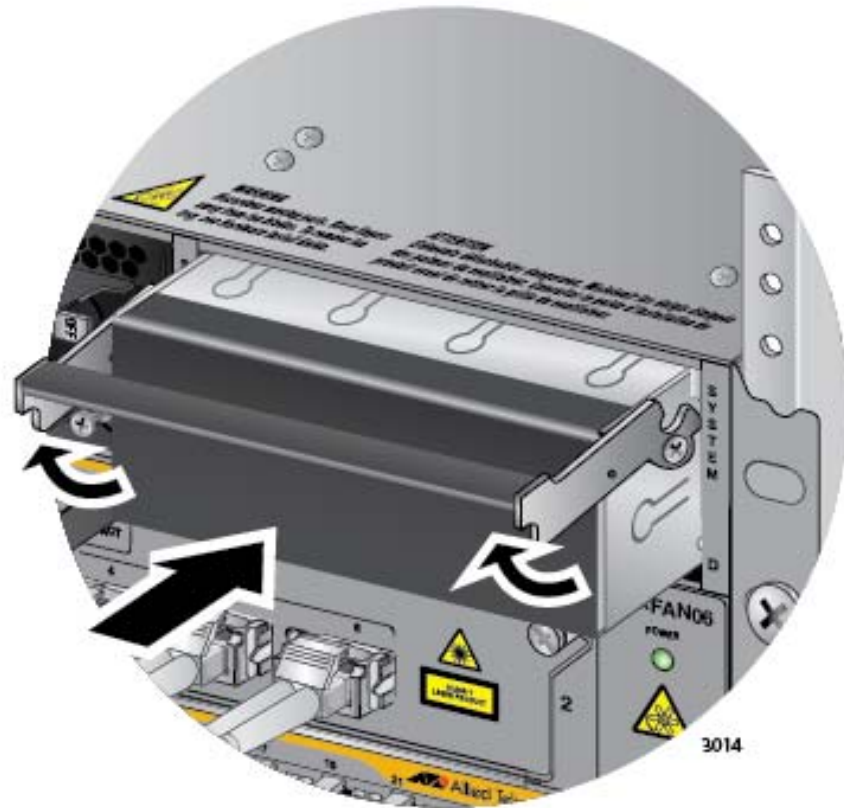

Figure 179. Installing a Blank Power Supply Slot Cover
13. Place the locking handle on the slot cover in the up position and slide the cover into the empty power supply slot. Refer to Figure 179 on page 282.